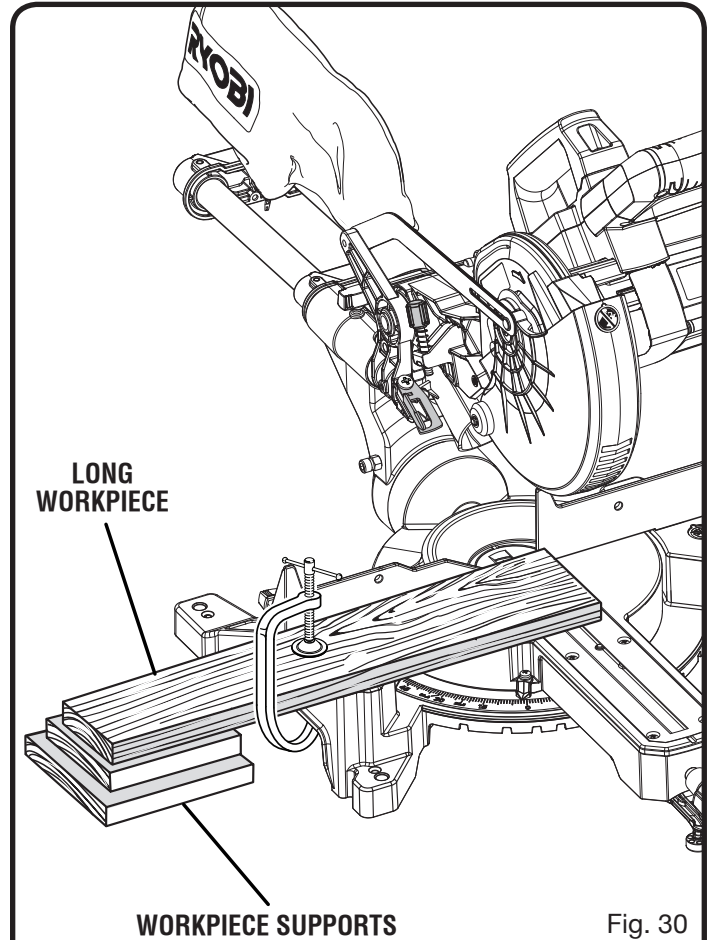

Fig. 30
- When cutting long pieces of lumber or molding, support the opposite end of the stock with a roller stand or with a work surface level with the saw table. *See Figure 30.*
- When cutting long pieces of lumber or molding, support the opposite end of the stock with a roller stand or with a work surface level with the saw table. See Figure 30.
See Figure 30.